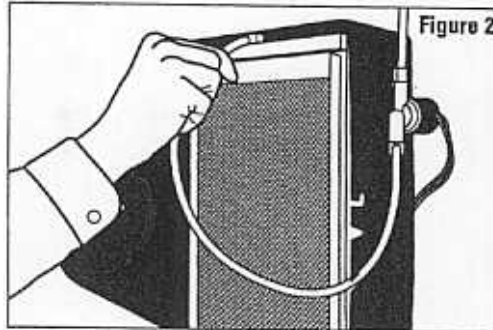

Figure 2
**5.** Re-install the Water Panel Evaporator assembly back into the base, making sure the bottom of the water panel assembly is properly seated on the sensor assembly. Make sure both float stems extend through openings in float cover and that floats move freely up and down. Push the feed tube back into the water distribution tray. (See Figure 2) If the nameplate in the cover (11) is upside down, remove it by gently squeezing the tabs of the nameplate from inside the cover and pushing out. Rotate the nameplate so it is right side up, and snap back into place. Put the front cover back on. Turn damper handle (8), to the open position "winter" for the heating season or closed position "summer" for the cooling season.